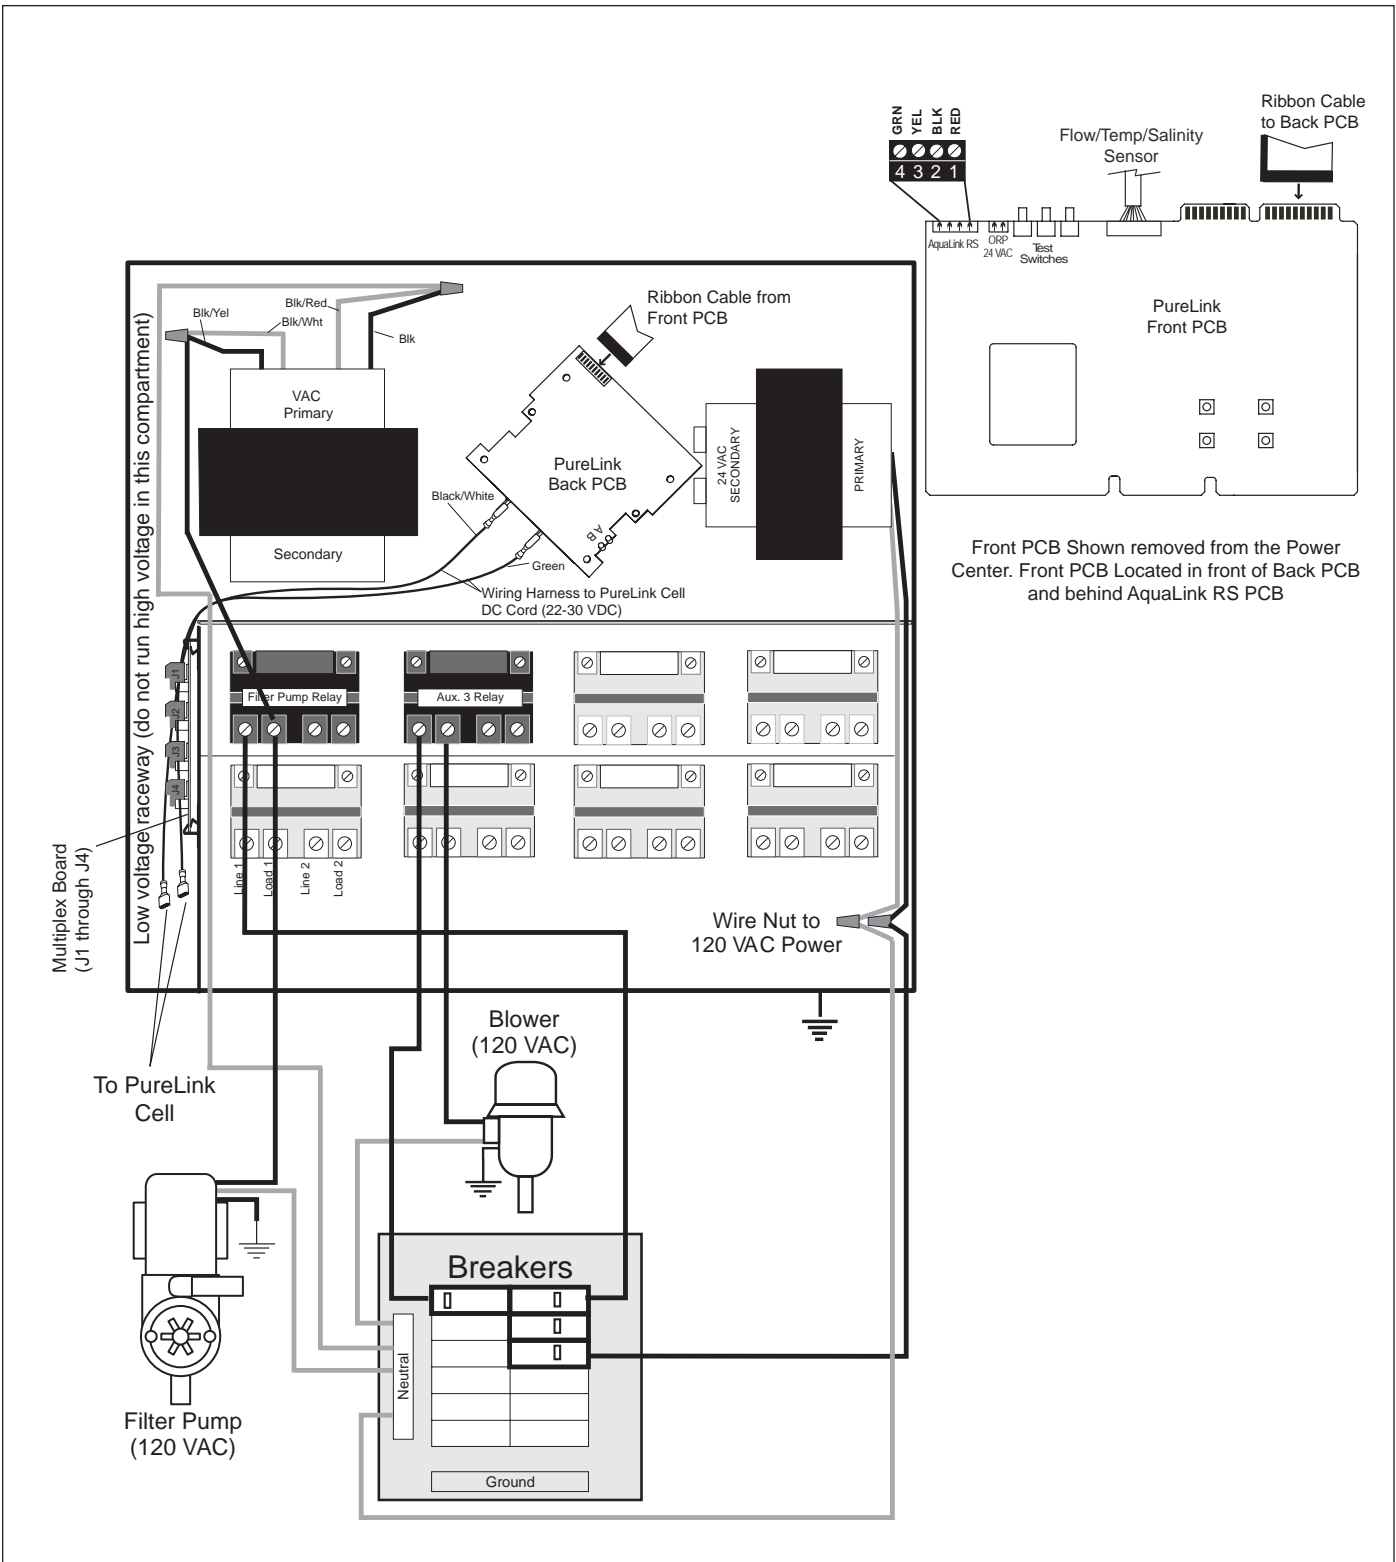

Figure 2b. 120 VAC Wiring Diagram for the AquaLink RS PureLink System
Factory wired for 240 VAC service. If available electrical service is 120 VAC, the power supply wiring must be changed to operate on 120 VAC as shown in Figure 2b.
- Check source voltage. (All units are factory wired for 240 VAC). ***In order to use on 120 VAC, the internal factory wiring of the power center must be changed. (See wiring diagram page 10 Figure 2b).***